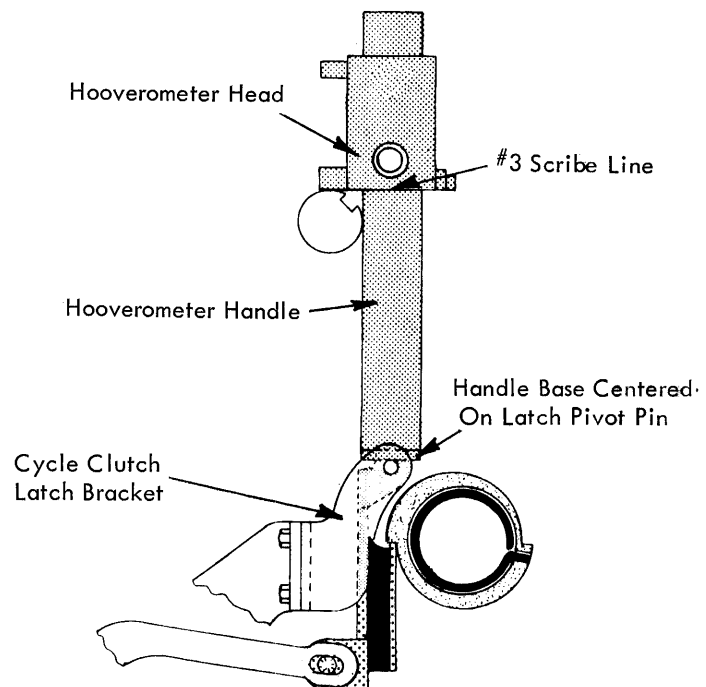

FIGURE 88. Cycle Clutch Latch Bracket Adjustment
2. Cycle Clutch Latch Bracket - Adjust the bracket vertically so that the steps of the cycle clutch sleeve are horizontal when the sleeve is stopped by the latch (Fig. 88).
When properly adjusted the top of the latch pivot pin is 1.546" below the top of the print shaft. This distance can be measured with the use of the Hoovermeter. With the head of the Hoovermeter set at the #3 scribe line, the head should rest on top of the print shaft with the handle touching the latch pivot pin (Fig. 88). Be sure the Hoovermeter handle is vertical. It will be vertical if the base of the handle is centered over the latch pivot pin.